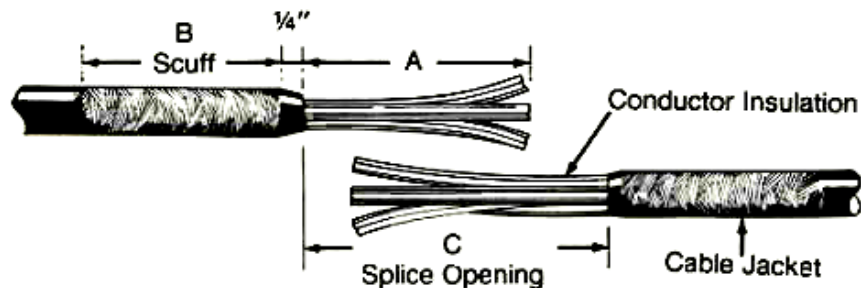

Figure 2
- Remove cable jackets for dimension "A". (Table 1 and Figure 2)
- Taper ends of insulation/jackets for ¼". (Figure 2)
- Scuff ends of cable jackets for Dimension "B" with coarse abrasive cloth provided. Remove all wax, dirt and dust from jacket surface. (Table 1 and Figure 2)
- Remove cable fillers back to jacket. (Figure 2, Dimension "A")